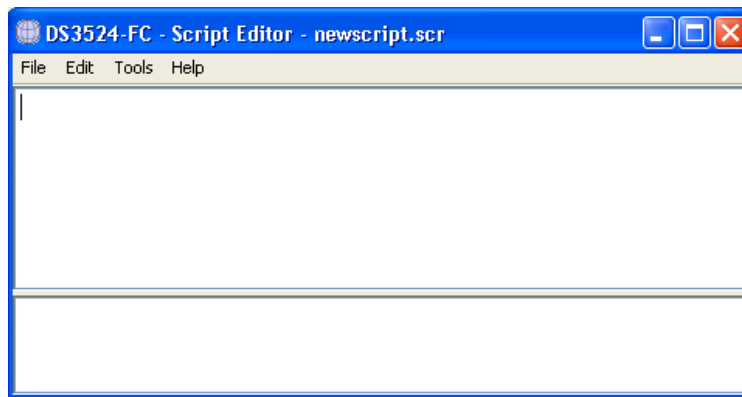

Figure 17-2 Script Editor window
2. A blank Script Editor appears as shown in Figure 17-2. From here you can enter commands and save them for later execution.